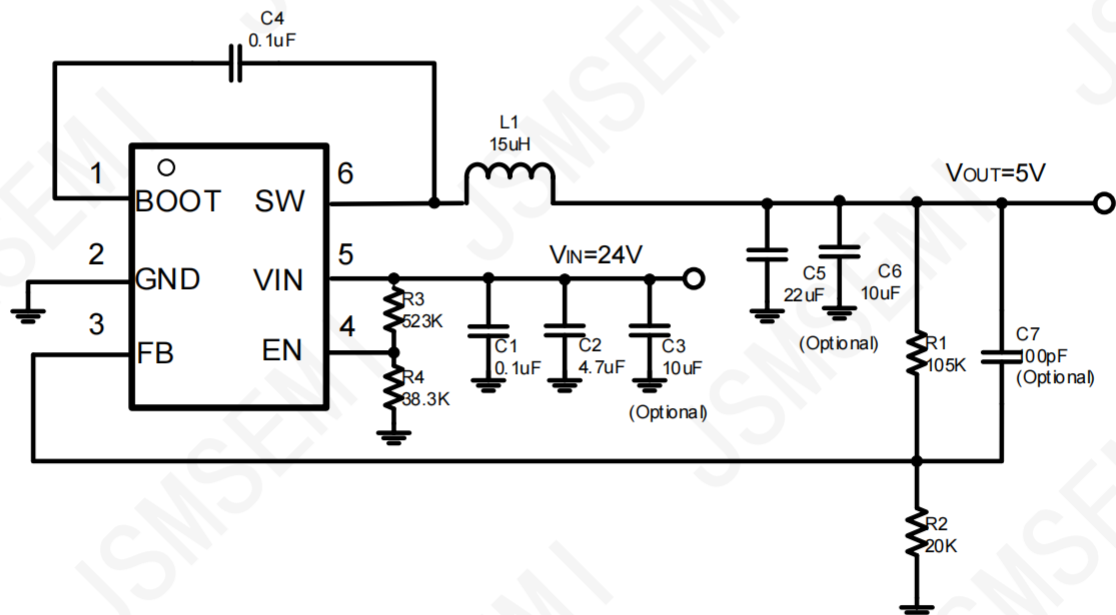
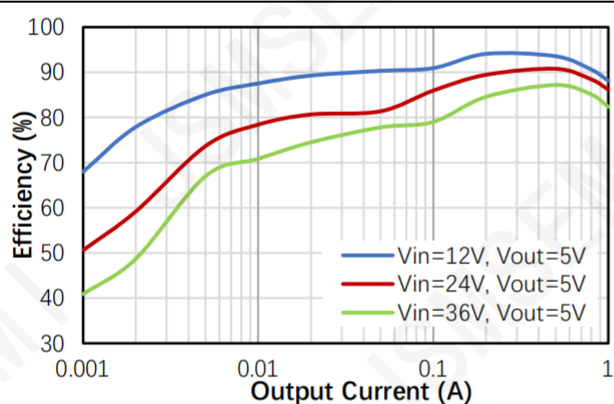

Figure 9. 24V Input, 5V/1A Output
Figure 10. Power Efficiency
The JSM61410 output voltage can be easily set up using a resistor divider network R1 and R2 as shown in the typical application circuit Figure 9. Use Equation (4) to calculate the resistor divider values.
Figure 10 through Figure 25 apply to the circuit of Figure 9. $V_{IN} = 24\text{ V}$, $T_A = 25^\circ\text{C}$ unless otherwise specified